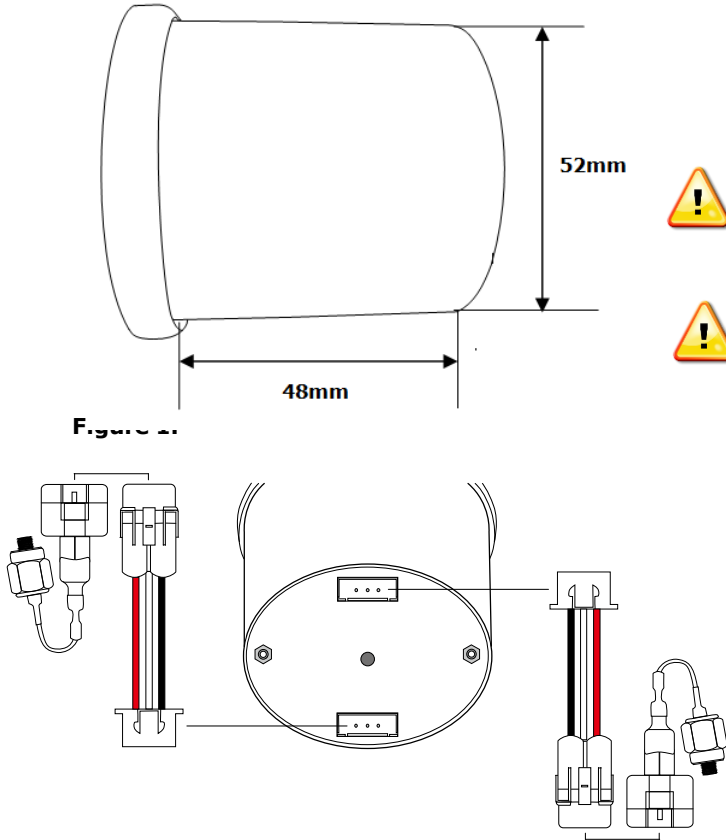

Figure 2.
This gauge is designed for measuring dual air pressures in three digits of Red LED display (**0-150 psi**), which helps to minimize the space for display and for easier monitoring the readouts. The two sets of pressure sensors are also designed for easy installation into rear of the gauge (**Figure 2.**). This gauge also features dim function in order to provide comfortable reading when head light is on.
5. Plug two sensors wiring harness to upper and bottom plug on rear of the gauge. Connect female and male sensor plug together. **Note:** In case of any abnormal situation occurred, please ensure the sensor wire's plug (sensor_u and sensor_d) are securely connected into the rear of the meter. Please see the enclosed diagram (**Figure 2.**) for reference.